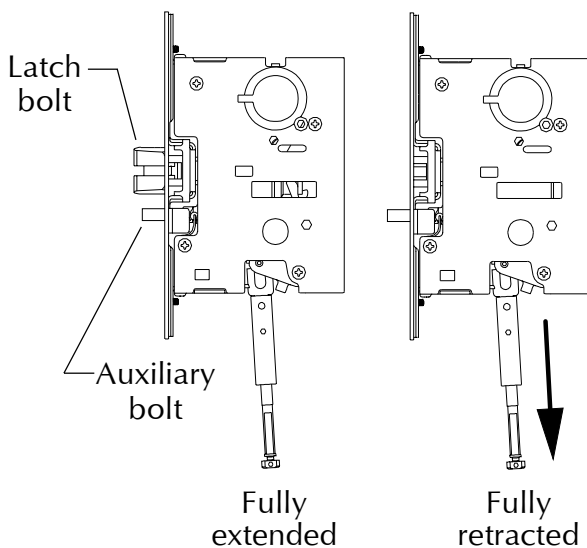

Figure 7-1
- 7.1. Fully depress and hold pushpad and pull rod connector to set mortise lock latch bolt in fully retracted (hold) position (Figure 7-1).